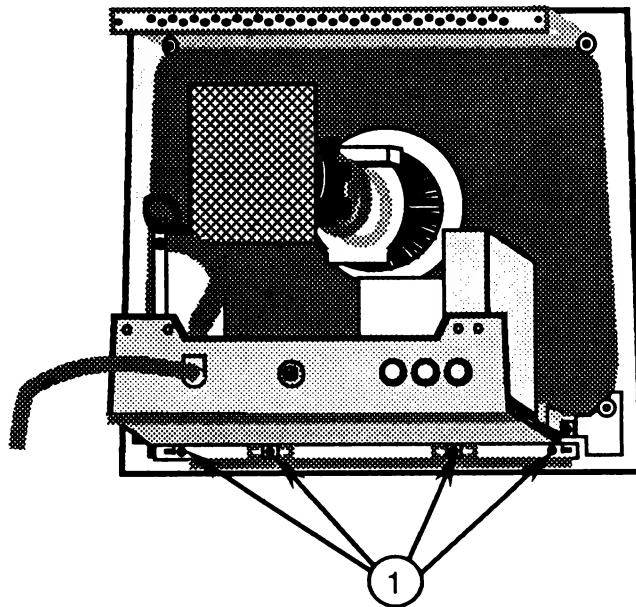

FIGURE 28
12. Replace the four main screws (Figure 28, #1) that secure the main logic PCB to the plastic monitor case.